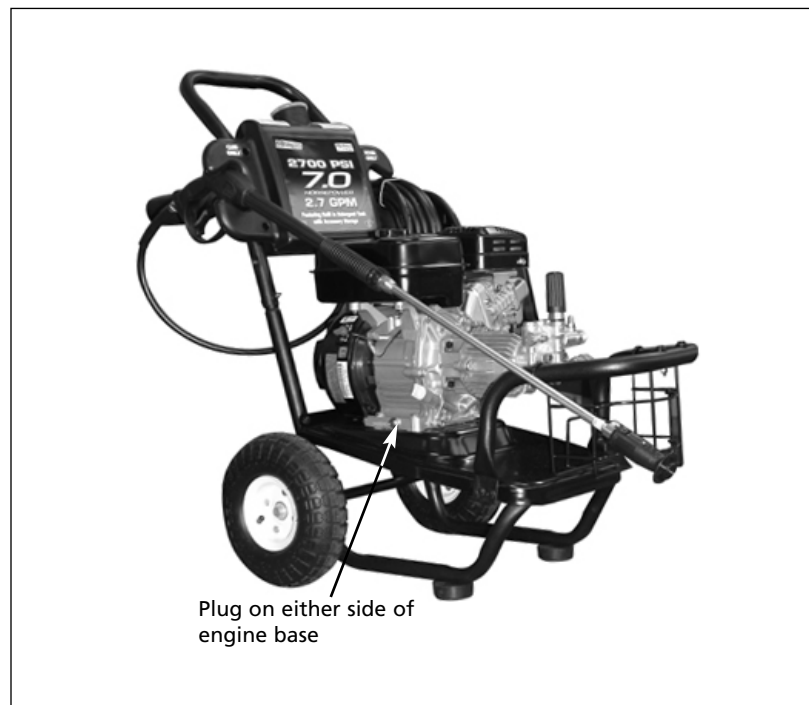

Figure 21 - Oil Drain Locations (also see Figure 22)
2. Locate and remove the engine oil drain plug (see Figure 21).